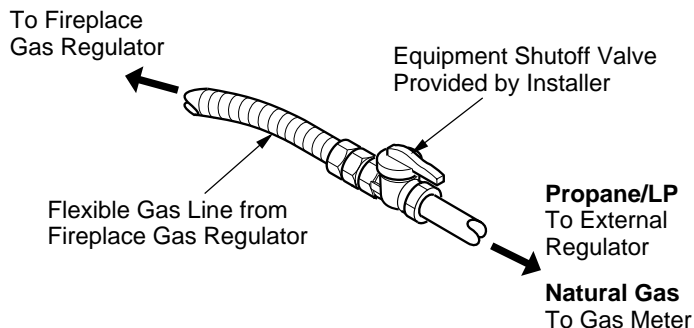

Figure 24 - Attaching Flexible Gas Lines Together
NOTICE: Most building codes do not permit concealed gas connections. A flexible gas line is provided to allow accessibility from the fireplace (see Figure 24). The flexible gas supply line connection to the equipment shutoff valve should be accessible.
5. Attach the flexible gas line to gas supply (see Figure 24). Check tightness of flexible gas line attached to gas regulator of fireplace (see Figure 24).